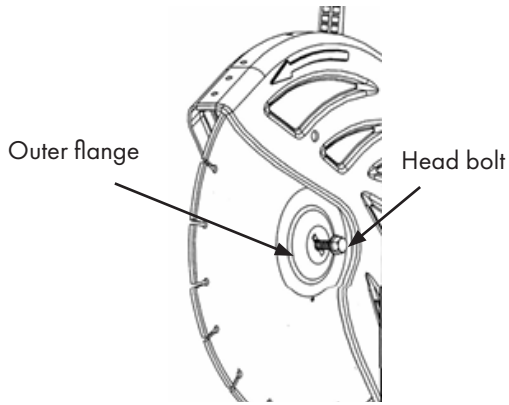

Figure 5
- Turn the idle screw if necessary. See Fig. 5, p. 17.